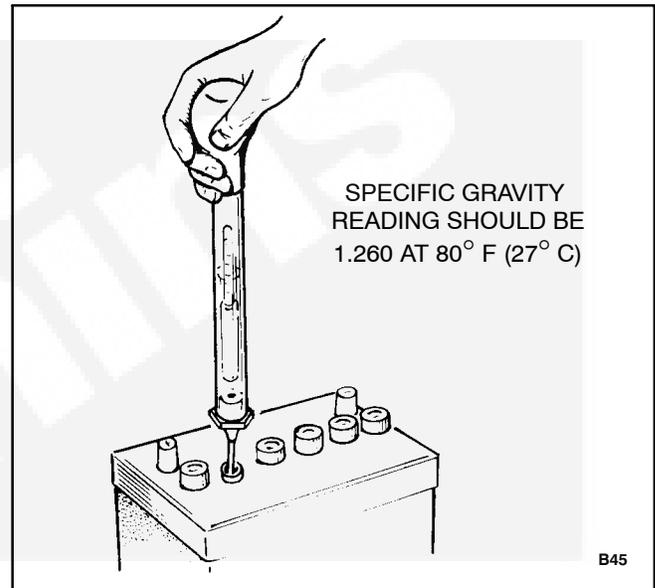

FIGURE 11. BATTERY CHECK
5. Use a battery hydrometer to check the specific gravity of the electrolyte in each battery cell (Figure 11). Charge the battery if the specific gravity measures less than 1.215. Do not overcharge the battery. Stop charging the battery when the electrolyte specific gravity reaches 1.260, at approximately 80° F (27° C).